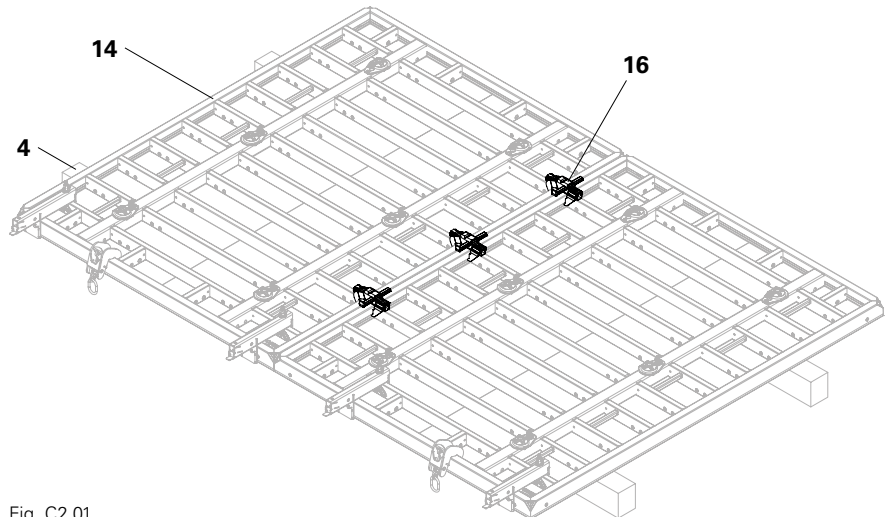

Fig. C2.01
2. Connect the two formwork elements with alignment coupler BFD (**16**). (Fig. C2.01)